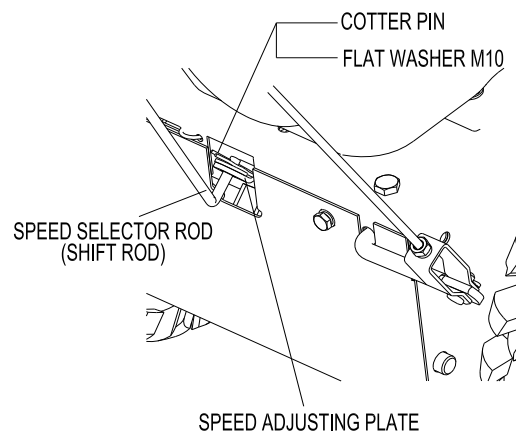
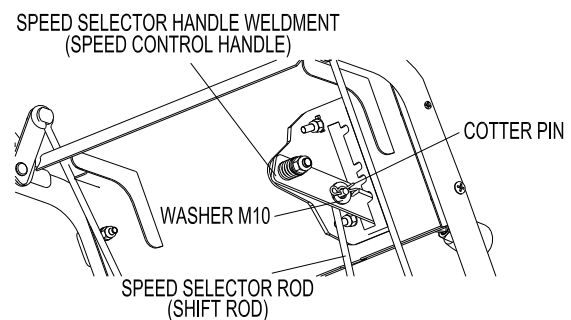

FIG 8
FIG 9
- 2.5.1** Install the shift rod into the hole located at the bottom of the speed control handle on the upper handle; attach by adding flat washer and insert cotter pin. Attach the other end of rod to the speed adjusting plate, located at the back center of the engine support frame, with the washer and cotter pin. (FIG 8, FIG 9)